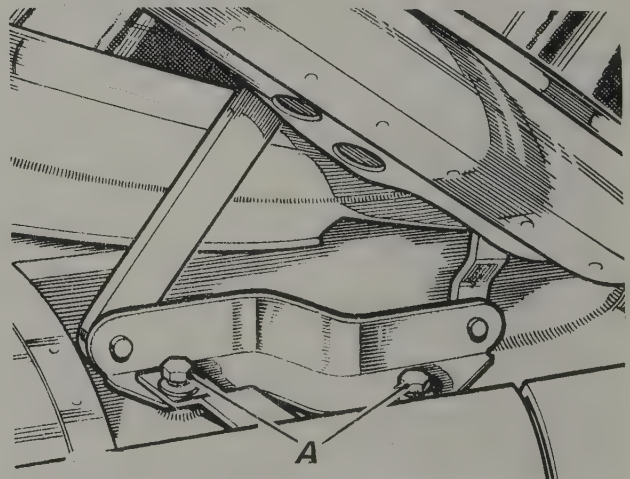

Fig. 1.3. Location of bonnet hinge bolts (A)
- 3 Slacken off the four bolts securing the bonnet to the bulkhead and remove. There are plain and spring washers with these bolts, so take care. At this stage it will be necessary to enlist some assistance to support one side of the bonnet. Note that the bolts at the front end of the hinge also support the wing panel, and that the rear right-hand bolt secures the bonnet light switch. (Fig. 1.3).